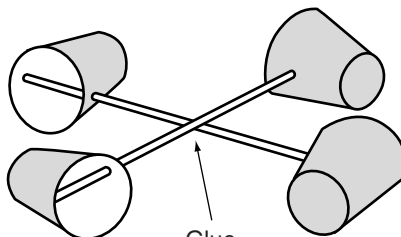

Figure 3.
5. Glue the two straw and cup assemblies together at their midpoints according to Figure 3.